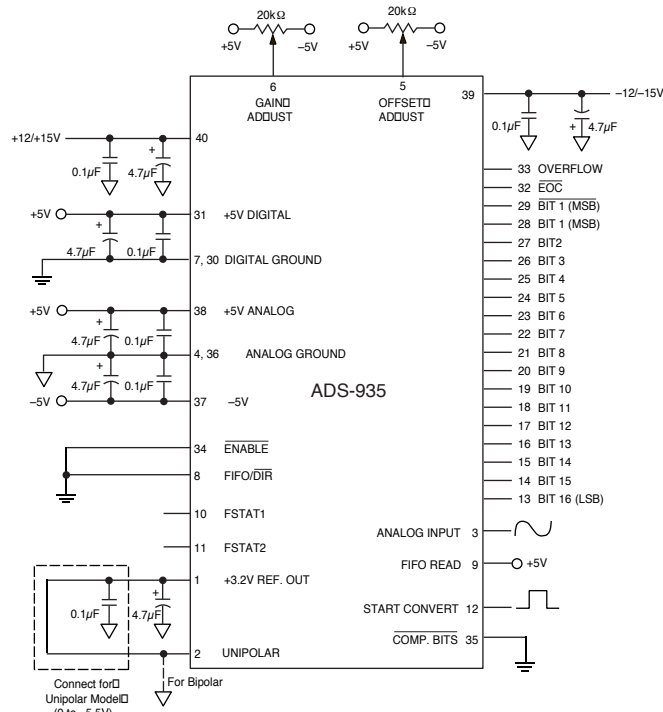

Figure 2. Connection Diagram
- The ADS-939A achieves its specified accuracies without the need for external calibration. If required, the device's small initial offset and gain errors can be reduced to zero using the adjustment circuitry shown in Figure 2. When using this circuitry, or any similar offset and gain calibration hardware, make adjustments following warm-up. To avoid interaction, always adjust offset before gain. Tie pins 5 and 6 to ANALOG GROUND (pin 4) if not using offset and gain adjust circuits.
Connect the converter per Figure 2. Any offset/gain calibration procedures should not be implemented until the device is fully warmed up. To avoid interaction, adjust offset before gain. The ranges of adjustment for the circuits in Figure 2 are guaranteed to compensate for the ADS-939A's initial accuracy errors and may not be able to compensate for additional system errors.